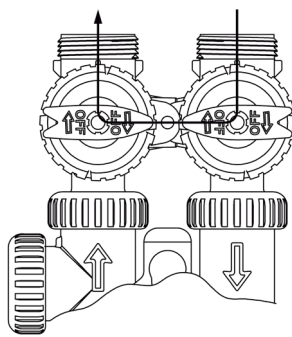

Figure 15:
3. Diagnostic Position: The inlet handle points in the direction of flow and the outlet handle points to the center of bypass valve, system water pressure is allowed to the control valve and the plumbing system while not allowing water to exit from the control valve to the plumbing. (See Figure 15)